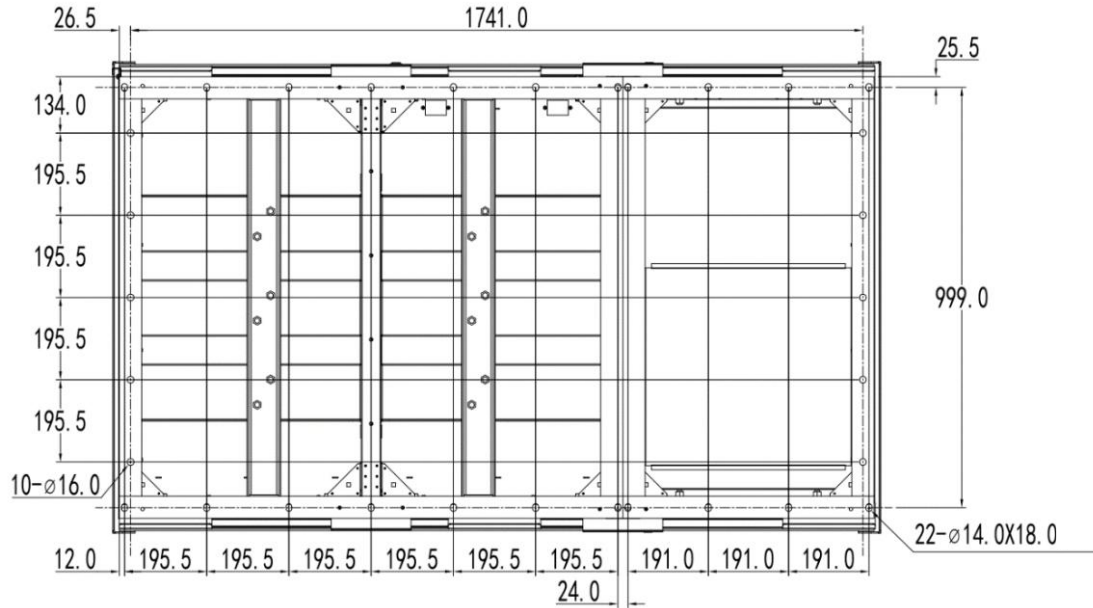

Figure 3-20 Dimension of anti-seismic components
Step 2 Determine the installation position of the cabinet, and draw the installation hole positions on the installation surface according to the seismic component and equipment dimensional drawing. The seismic component and equipment dimensional drawing is shown in Figure 3-20.